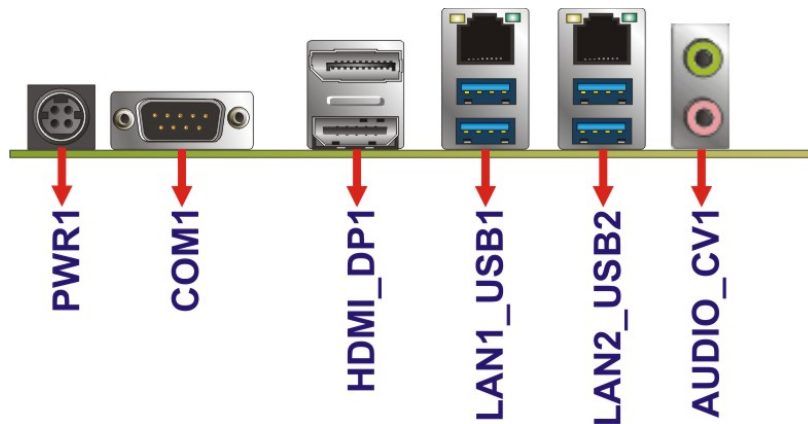

Figure 3-28: External Peripheral Interface Connector
CN Location: See **Figure 3-28**
- CN Location:** See **Figure 3-28**